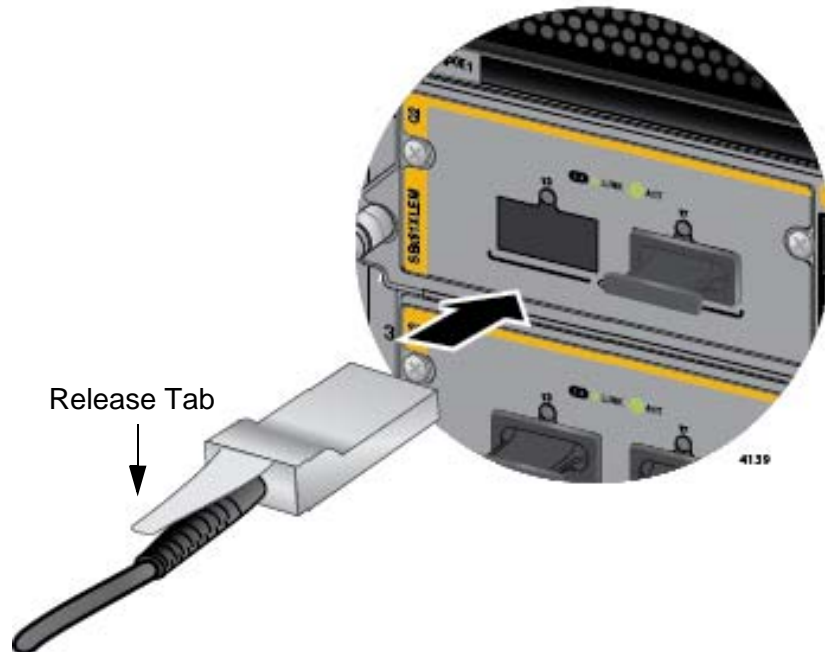

Figure 105. Sliding the AT-QSFPCU Cable into the Slot
2. Orient the connector on the AT-QSFPCU Cable with the release tab on top and slide it into the slot until it clicks into place. Refer to Figure 105 on page 175.